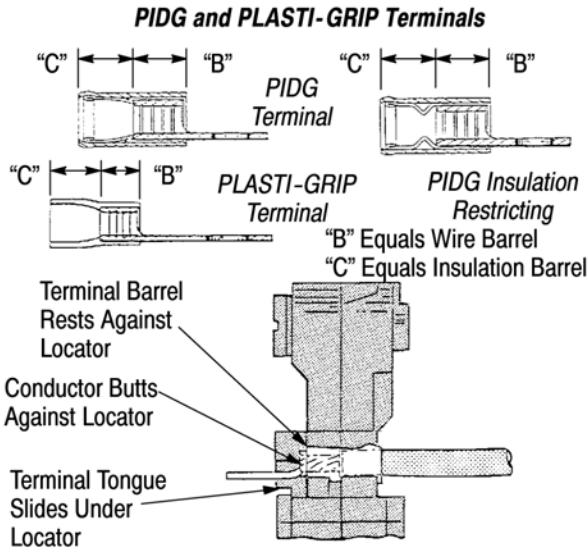
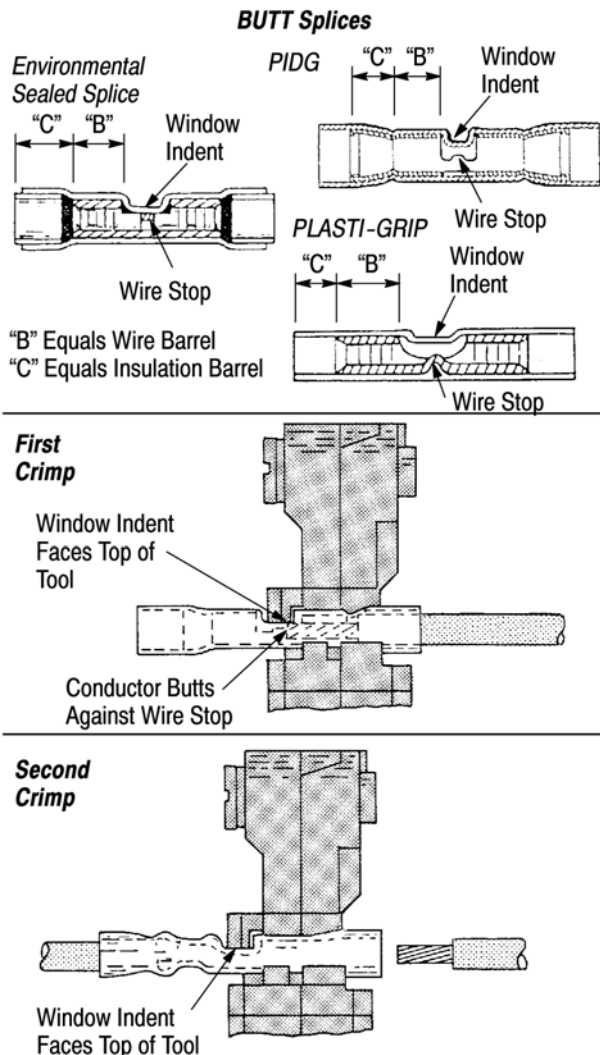

Figure 3
Figure 4
3. Place terminal in crimping dies so that terminal tongue slides under locator. See Figure 3.
4. Raise locator and place splice under locator as shown in Figure 4. Splice window indent faces top of tool.
To properly position pre-insulated sealed splice, apply and maintain pressure against end of splice until Step 5 is completed. See Figure 4.
6. Insert stripped wire into terminal until conductor butts against locator. See Figure 3. Insert stripped wire into splice until conductor butts against splice wire stop. See Figure 4.
- ③ Wire size is not within wire range stamped on terminal tongue or splice.
- ④ Crimp not centered on wire barrel. (Terminal was not butted against locator. See Figure 3.)
- ⑤ End of conductor is not flush with or extending beyond end of wire barrel. (Check for correct strip length.)
- ⑥ Excessive flash or extruded insulation, (wrong tool, terminal, or splice combination, or damaged dies).
- ⑦ Wire insulation entered wire barrel.
- ⑧ Nicked or missing conductor strands.
- ⑨ Splice was reversed in dies (tool's locator was not seated in window indent of splice).
3. Insert UNSTRIPPED wire into ONLY the insulation barrel (see Figure 3 or Figure 4) of terminal or splice.